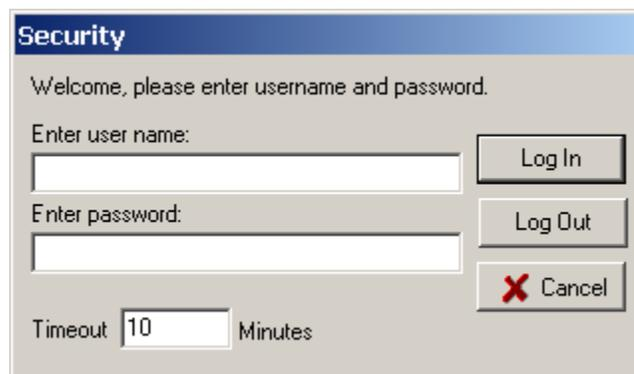

Figure 8. Security Window
**SECURITY:** Select this text or press the <Shift>F8 keys from any screen to log in or log out of the system. On the Security window (Figure 8) enter your user name and password, select the timeout in minutes for a log in, then press the Log In button. Depending on system initialization, entering zero minutes for the timeout may allow you to remain logged with no automatic timeout. To log out select SECURITY or the <Shift>F8 keys and click the Log Out button. The system allows only one logged in user on each WTV.